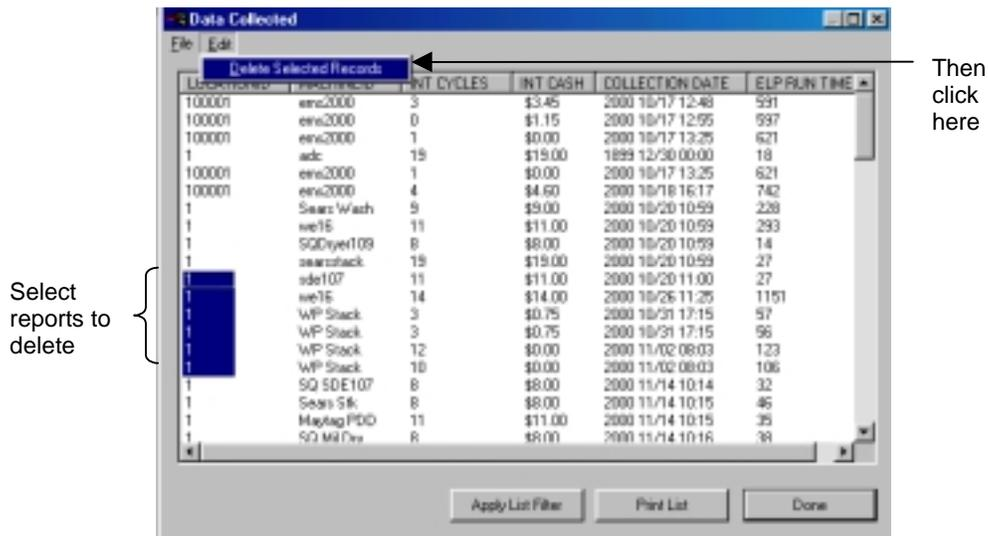

Figure 8.41 Deleting the Collection Records
2. Select the collection records you wish to delete (Figure 8.41).
3. Select Delete Selected Records from the Edit drop-down menu (Figure 8.41).